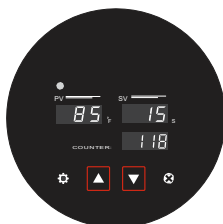

Fig. 6
6. Press Up  or Down  buttons to select either °F or °C (Fig. 6) OR skip this step if you are satisfied with the current selection.